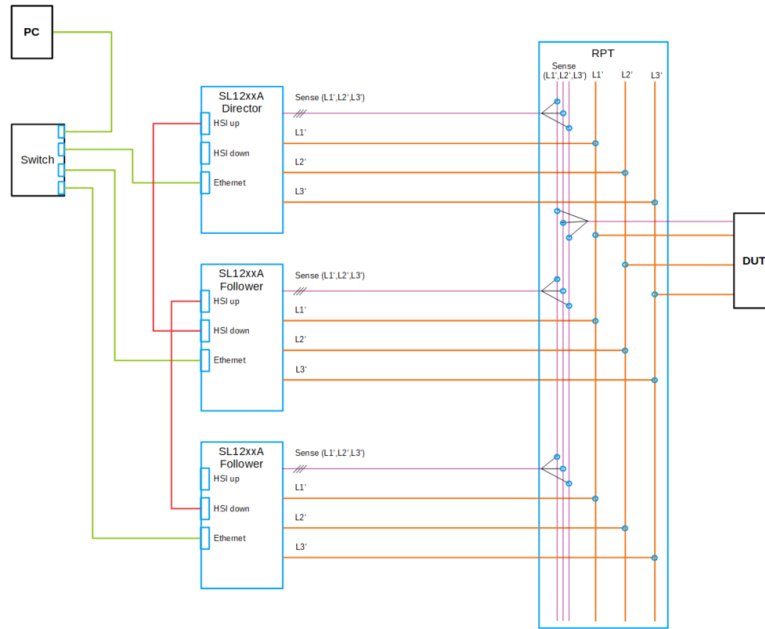

Figure 5: Schematic for parallel connection (connection via remote power terminal (RPT) as an example)
To avoid voltage losses to the DUT, the cable lengths between the SL1200A and the defined connection point of the parallel connection (e. g. at the RPT box as in Figure 5) must always be the same.
- For parallel connection director/follower systems (see Figure 5)
The following Figure 5 shows an example for a parallel connection via Remote Power Terminal (RPT).